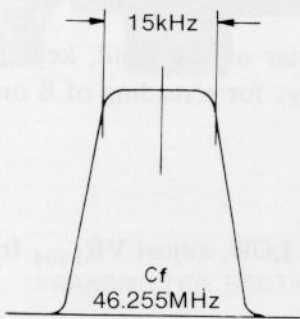

Figure 1
1. Connect the output of the sweep generator to the gate of  $Q_{1003}$ , and the input to the collector of  $Q_{1006}$ . Set the sweep generator frequency to 46.255 MHz and adjust  $T_{1001} - T_{1003}$  to obtain the passband of Figure 1.